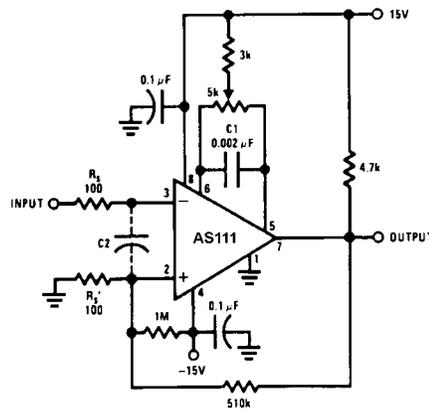

FIGURE 2. Conventional Positive Feedback
6. It is a standard procedure to use hysteresis (positive feedback) around a comparator, to prevent oscillation, and to avoid excessive noise on the output because the comparator is a good amplifier for its own noise. In the circuit of Figure 2, the feedback from the output to the positive input will cause about 3 mV of hysteresis. However, if  $R_s$  is larger than  $100\Omega$ , such as  $50\text{ kW}$ , it would not be reasonable to simply increase the value of the positive feedback resistor above  $510\text{ kW}$ . The circuit of Figure 3 could be used, but it is rather awkward. See the notes in paragraph 7 below.